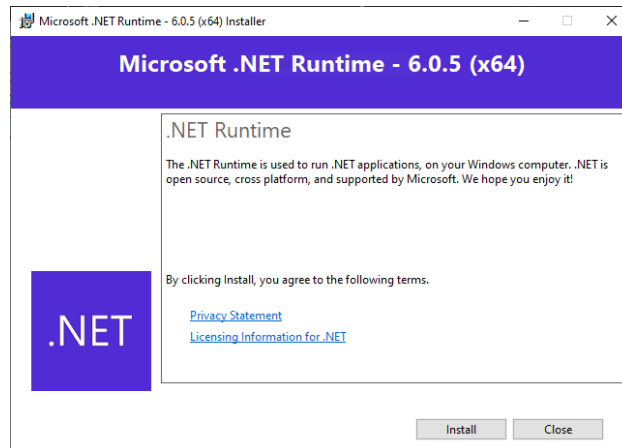
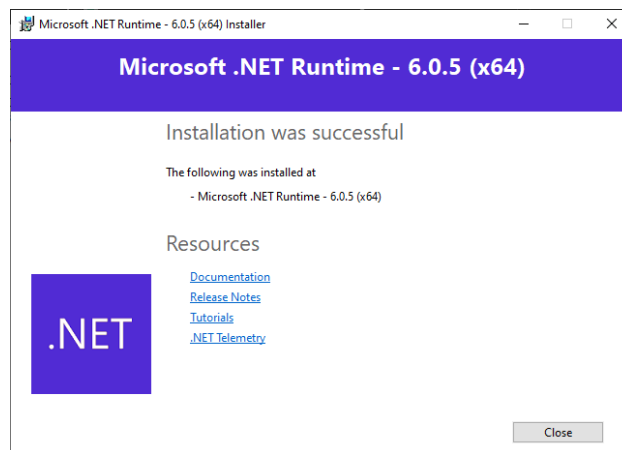

Figure 17: .NET runtime installation window.
Figure 18: .NET runtime successful installation window.
6. (Optional) In case the .NET runtime needs to be installed, click *Install* in the .NET runtime installation window (Fig.17). In case of successful installation, the window shown in Fig.18 will appear.